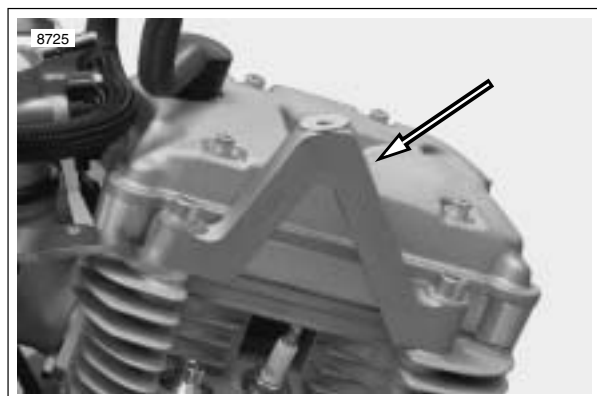

Figure 3-34. Center Tie Bar Mount
- b. See Figure 3-34. Center tie bar mount 30-33 ft-lbs (40.6-44.7 Nm).